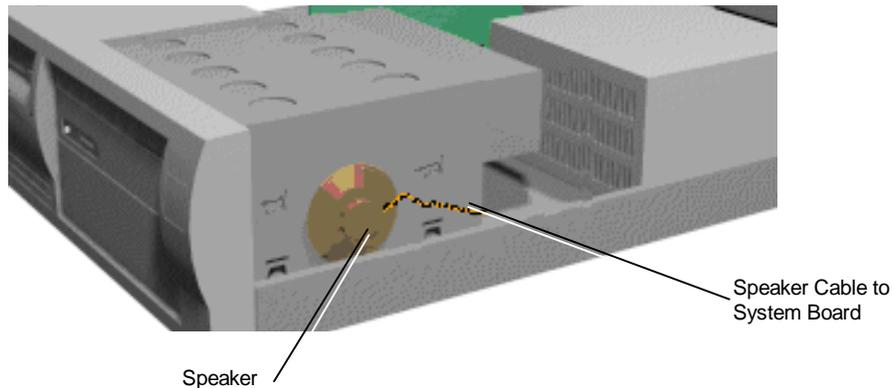

Figure 5-10 Internal Speaker
3. Slide the speaker out from the tabs on the device cage (see Figure 5-10).